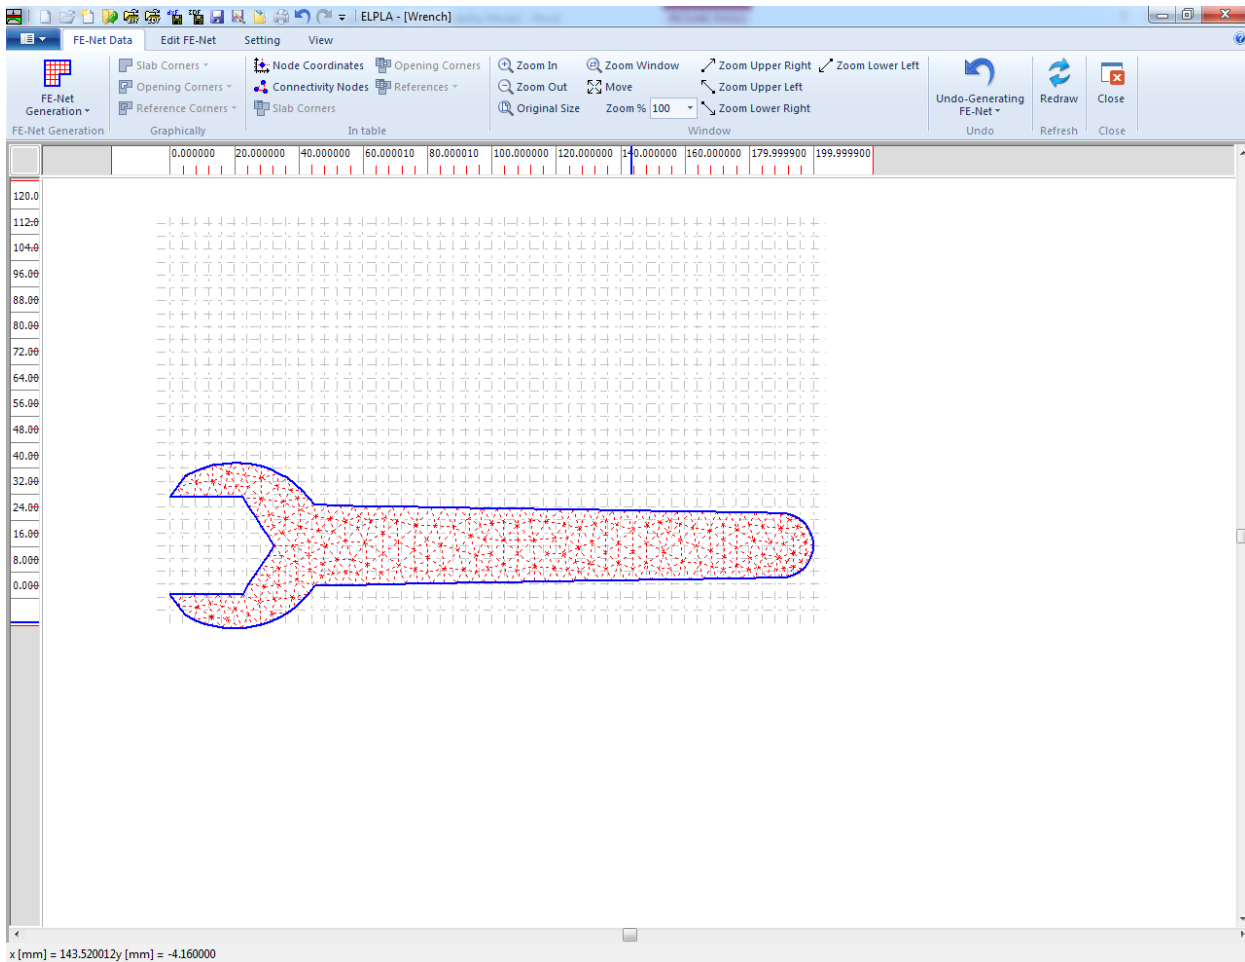

Figure 5.18 Final FE-Net of the wrench
After finishing the generation of the FE-Net and creating the wrench FE-Net as shown in Figure 5.18, do the following two steps:
- Choose "Save" command from "File" menu in Figure 5.18 to save the data of the FE-Net
- Choose "Close" command from "File" menu in Figure 5.18 to close the "FE-Net" Window and return to the main window